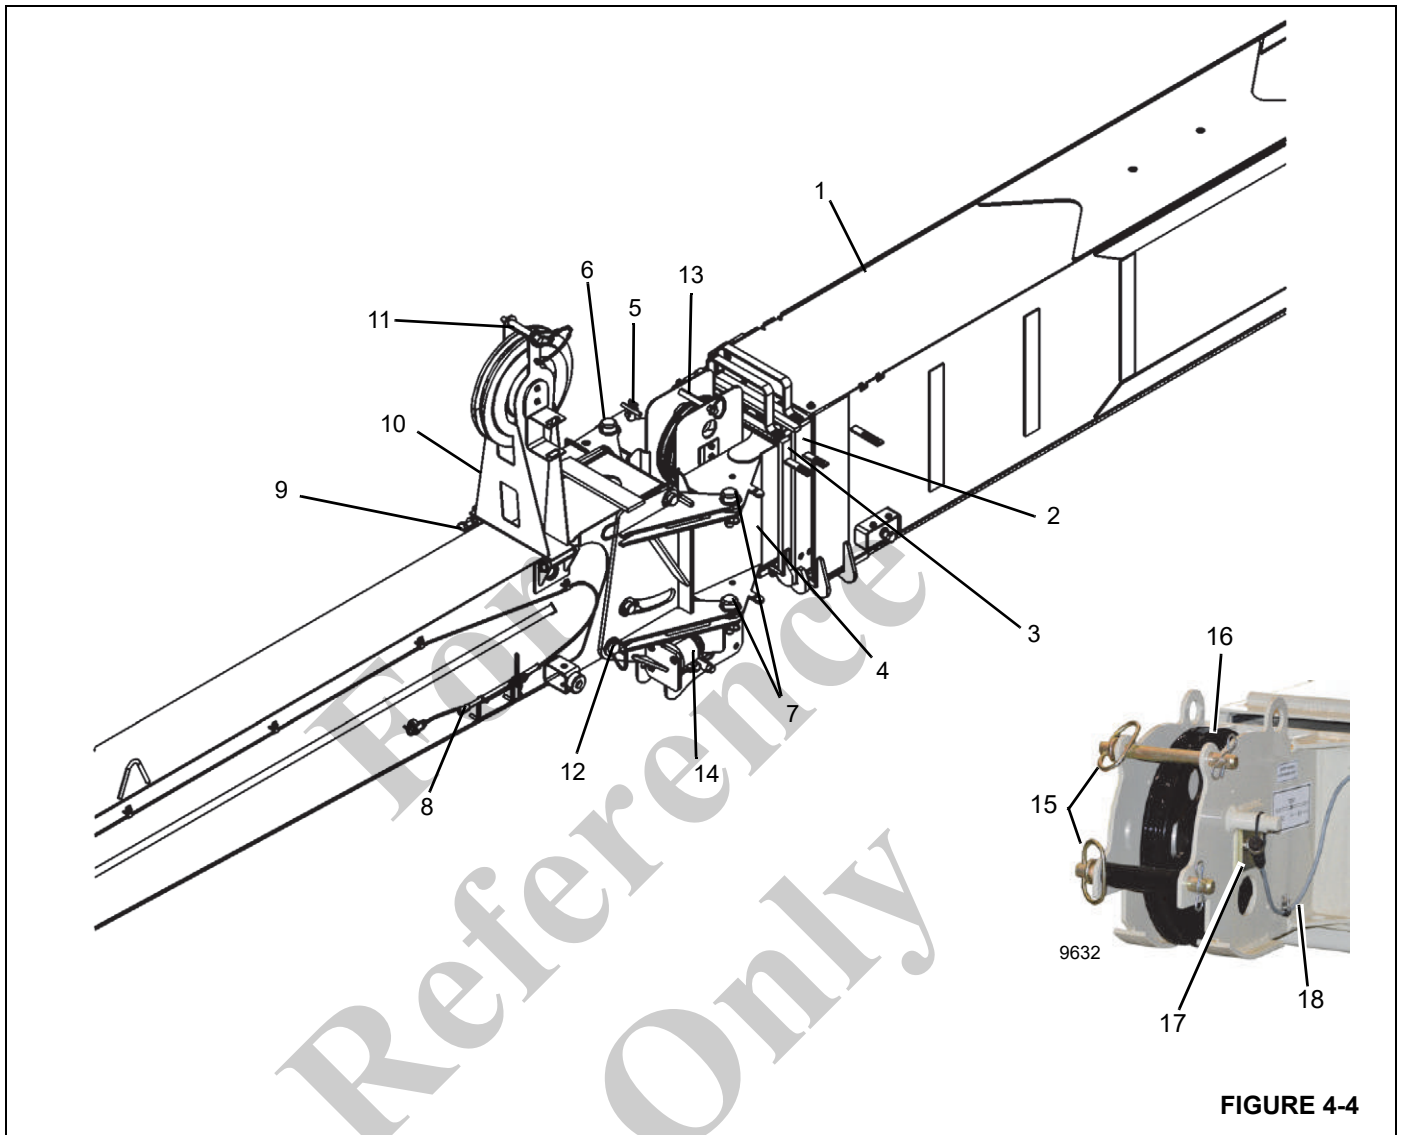

FIGURE 4-4
11. Using telescope function, slowly extend boom approximately 30 cm (12 in). This procedure will pull the jib out of the hook bracket (3).
13. Install upper left attachment pin (7) and spring clip. A slight hammer strike may be necessary to install pins. Always use proper eye protection during this step.
14. Use the alignment jack (10) to align lower left side attachment pin (7).
- a. Remove the jack handle (11) from the boom stowage bracket and check that the jack release valve is closed.
- b. Extend the alignment jack (10) so that the lower left pin holes (7) are aligned.
- c. Install the lower left side attachment pin (7) and spring clip.
- d. Open the jack release valve and retract the jack (10).
17. If not already done, remove mast assembly rope retainer (11, Figure 4-4). Remove rope retaining pins and lock pins (15) from the jib nose. Route loadline over mast assembly (10) and jib sheave (16) and install keeper (17). Install mast assembly rope retainer (11). Install the jib retaining pins using lock pins (15). Install line block to end of loadline.
23. Make ATB cable (Figure 4-4) connections as required.
6. Lower the mast assembly (10, Figure 4-4). Secure with retaining clip and pin. For more information, see *Setting the Offset Mast*, page 4-13.
8. Remove spring clips from left side attachment pins (7, Figure 4-3 and Figure 4-4) on both upper and lower jib lugs.
10. Remove left side attachment pins (7, Figure 4-3 and Figure 4-4) from upper and lower jib lugs. Do not remove right side attachment pins (6) at this time. The right side attachment pins (6) will be used as a pivot point to swing jib into stowed position. A slight hammer strike may be necessary to remove pins.
4. Attach rigging to the jib and lift the jib with an assist crane. With the assist crane supporting the jib, remove the right side attachment pins (6, Figure 4-4) in upper and lower jib lugs. Jib is now free of the boom.
- Using lift function, lower boom so that right side attachment pins (6, Figure 4-4) are easily accessible from the ground.
- Attach rigging to the jib and lift the jib with an assist crane. Position the jib at the boom nose so the right side attachment pins (6, Figure 4-4) can be installed to secure the jib to the boom nose.
- Install right side attachment pins (6) in the upper and lower jib lugs. Secure the pins with retainer spring clips. The right side attachment pins are used as pivot points to swing the jib into stowed position. The jib is now attached to the boom and ready to stow.
The mast assembly (10, Figure 4-4) must be positioned on top of the base section before attempting to use the jib at 0 degree or 30 degree offset positions. Failure to do so can cause damage to the mast and/or jib adapter.
The mast assembly (10, Figure 4-4) must be positioned on top of the base section before attempting to use the jib at the 0, 15, or 30 degree offset positions. Failure to do so can cause damage to the mast and/or jib adapter.